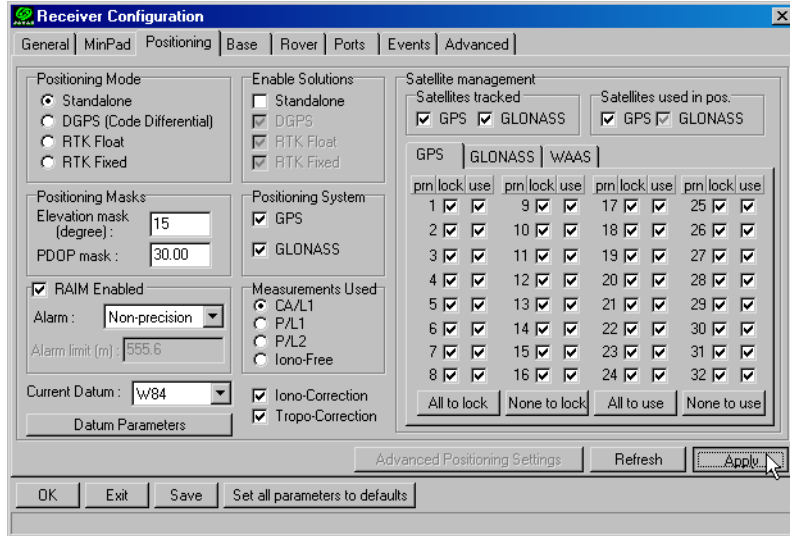

Figure 3-10. Receiver Configuration – Positioning
9. Select the **Positioning** tab and set the Position Masks, Elevation mask parameter to 15 (Figure 3-10).
4. Select the **Positioning** tab and set the Position Masks, Elevation mask (degrees) parameter to 15 (Figure 3-10 on page 96).